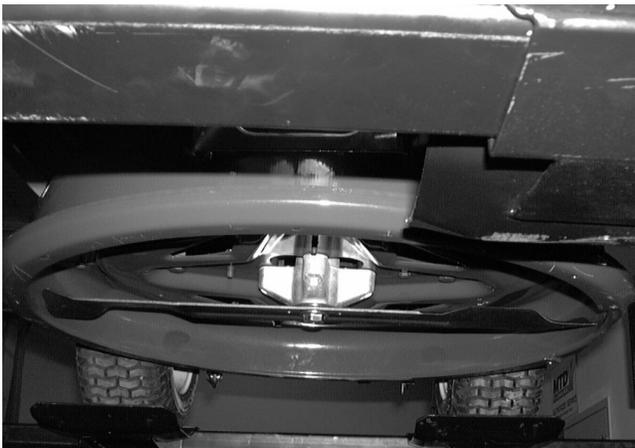

FIGURE 5.
- 1). Using a work glove or rag, rotate the mowing blade until it is perpendicular to the rider frame. See figure 5.